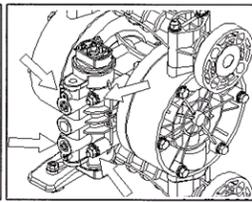

Fig. 7.1B
- PP motor: remove the 4 retainer bolts from the valve body, and remove the valve body including gasket. [Fig. 7.1B]